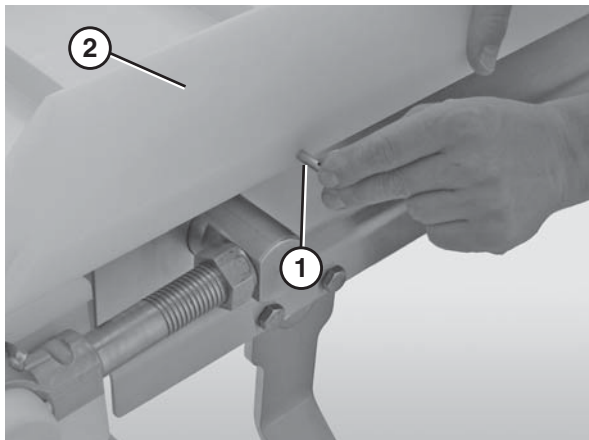

Figure 40
1. Remove the pull pins (Figure 40, item 1) that connect the guide (Figure 40, item 2) to the frame.